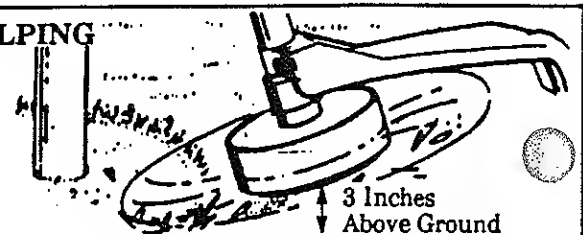

Figure 13
2. **SCALPING** - FIGURE 13. The scalping technique removes unwanted vegetation. Hold the bottom of the trimmer head about 3 inches above the ground and at an angle. Allow the tip of the line to strike the ground around trees, posts, monuments, etc. *This technique increases line wear.*